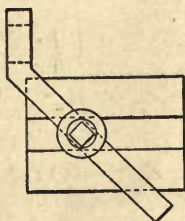

Fig. 5.
**52. Manner of setting a Drill Rest.** — Fasten the drill rest in the tool post, as shown (plan view) in Fig. 5.